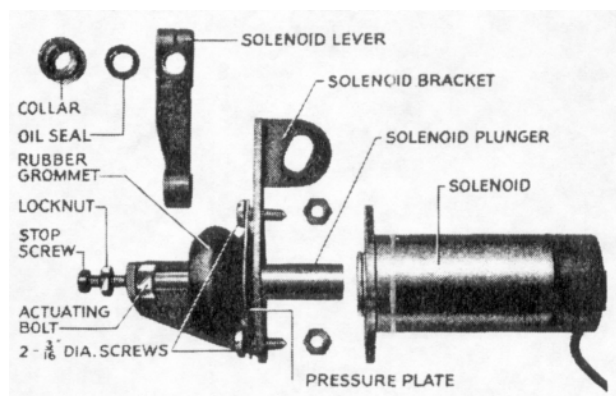

Fig. 27 Exploded view of Solenoid operating details.
4. Fit the pressure plate over the grommet, and with two 3/16" diameter screws position on the solenoid bracket (Fig. 27).